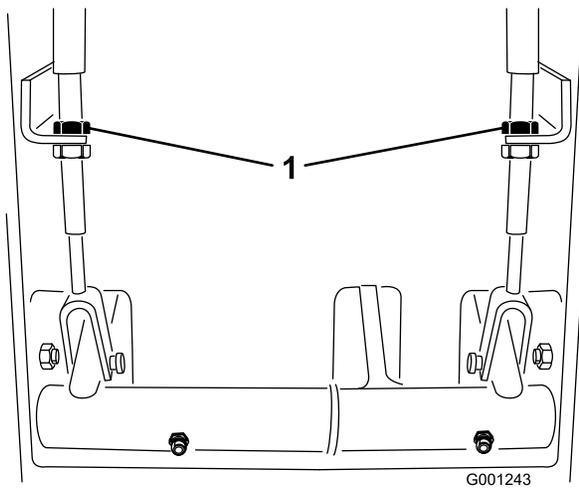

Figure 62
2. To reduce the free travel of the brake pedals, tighten the brakes by loosening the front nut on the threaded end of brake cable (Figure 62). Then tighten the rear nut to move cable backward until the brake pedals have 1/2 to 1 inch (13 mm to 25 mm) of free travel.